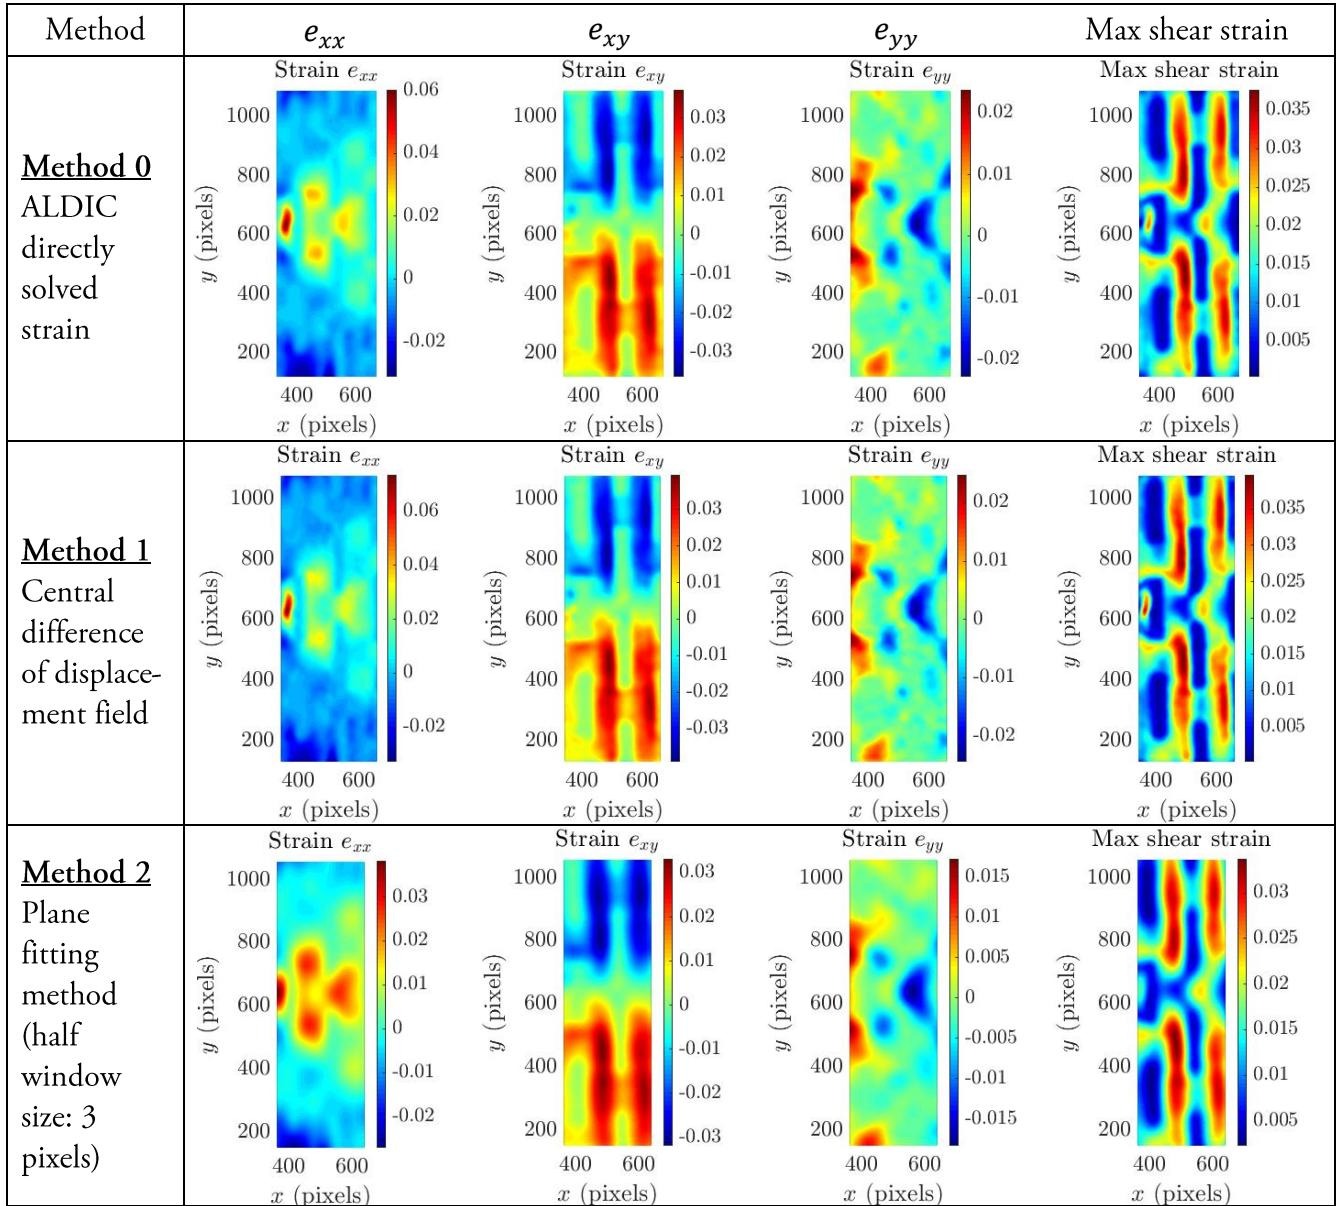

Figure 11. Solved strain fields by ALDIC method.
E.g., different methods to compute strain fields of our example are shown in Figure 11, and results of multi-frames in our heterogeneous fracture example are stored in “./results_frac_heter/”.